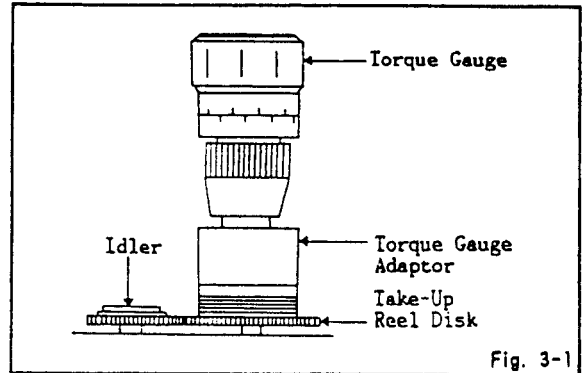

Fig. 3-1
1. Set torque gauge (JG002G) on take-up reel disk, and place unit in FAST FORWARD mode. (Refer to Fig. 3-1)